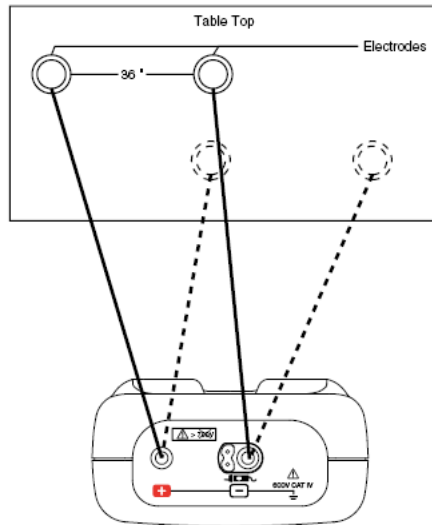

Figure 2
3. Unless otherwise specified, make five measurements on each floor section with the weights at different locations for each measurement, and record the value to two significant figures (see Figure 2 below).
- Resistance from electrode to electrode (Figure 2): Measured value: $\geq 1\text{M}\Omega$